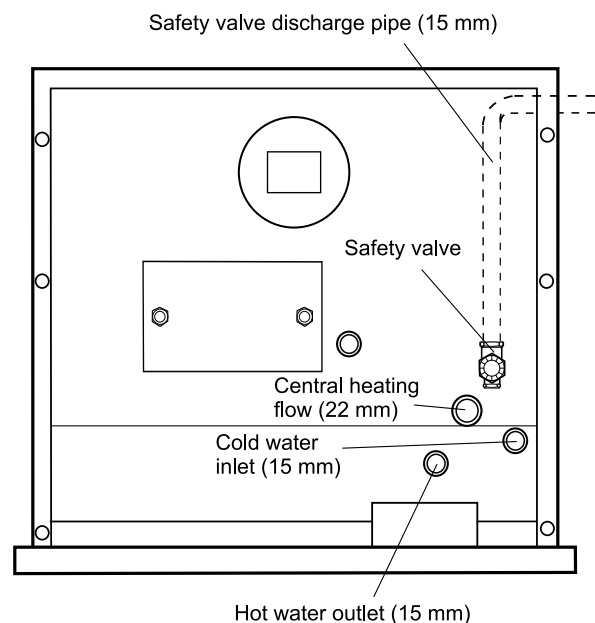

Fig. 16 - Combi 70 pipe positions
- 4 **Combi 70:** Fit the three push-fit elbow connectors onto the open pipe ends in the top right corner of the boiler. See Fig. 16. Connect the pipework (not supplied with the boiler) to the elbows as shown in Fig. 17.